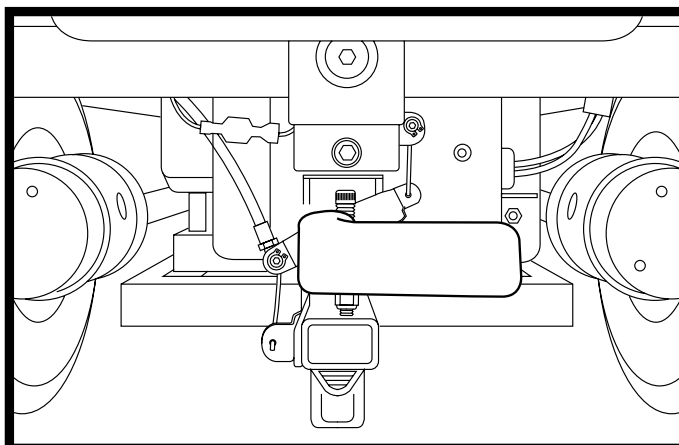

Figure 8. Drive Mode
2. Rotate the manual freewheel lever counterclockwise for drive mode (drive motors engaged.) See figure 8.